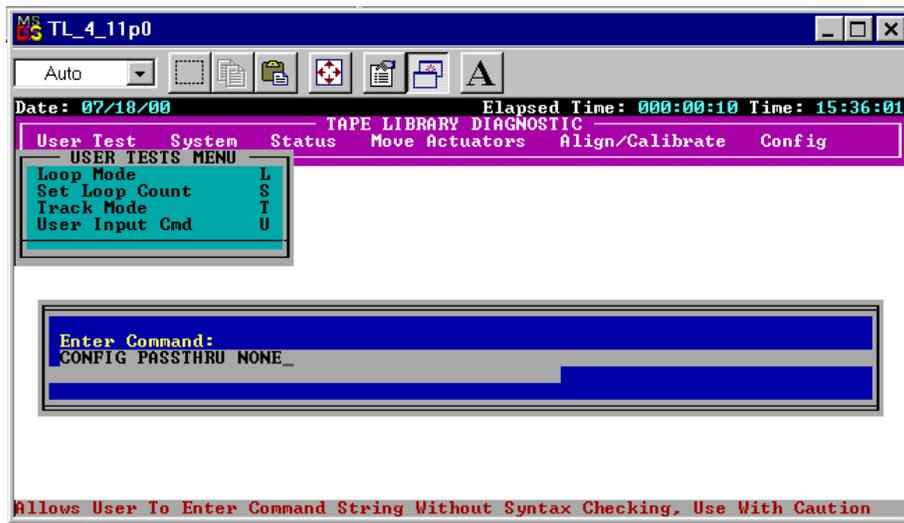

Figure 3-11. Command Line dialog box
5. After the command line dialog box appears, (see Figure 3-11) type: